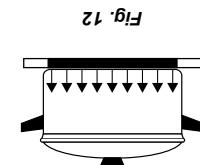

Fig. 12
- Properly selected pot (fig. 12)